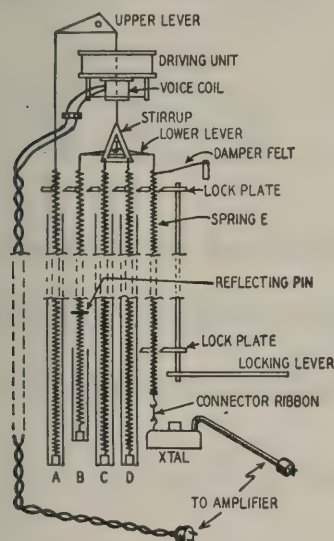

Fig. 5—Reverberation control unit. Springs delay sound, create "live" music.
Hammond organs are often used in homes and small halls where the room is either acoustically “dead” (sound is absorbed by rugs and draperies) or too small to allow long duration echoes. Hammond therefore created an artificial reverberation control unit, Fig. 5. The reverberation control is an electro-mechanical device which introduces multiple echoes by reflections within a network of coil springs. The unit is about 4 x 5 inches in cross-section and about 4 feet high. It is concealed within a tone cabinet such as the DR-20.
The reverberation driver is a moving coil assembly similar to a dynamic speaker without a cone. The audio-frequency coil movement is transmitted to the stirrup directly under it (Fig. 5). The two enclosed springs (J, D) under the stirrup hold it in position but permit it to move freely up and down; the spring at the far left (A) balances the pull of the others. These three springs
The same wave from the stirrup (Fig. 5) also travels down the second spring from the left (B), which enters a short oil tube. From the bottom of